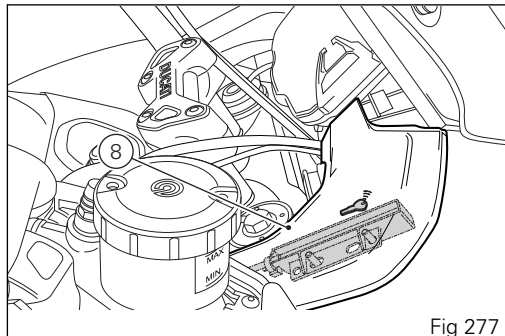

Fig 277
(Fig 275) indicates the position of the Hands Free unit (6), with protection lid (7) and (Fig 276) indicates the position of the Hands Free unit (6) for the US version, while (Fig 277) indicates the position of the antenna (8).